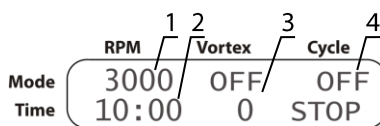

Figure 5. Centrifugation
- 5.3.6.2 **Centrifugation**. Set the centrifugation speed (fig. 5/1) and time (fig. 5/2). Turn off vortexing by setting the time to zero (indication OFF, fig. 5/3). Note that the cycle counter turns off (indication OFF, fig. 5/4).